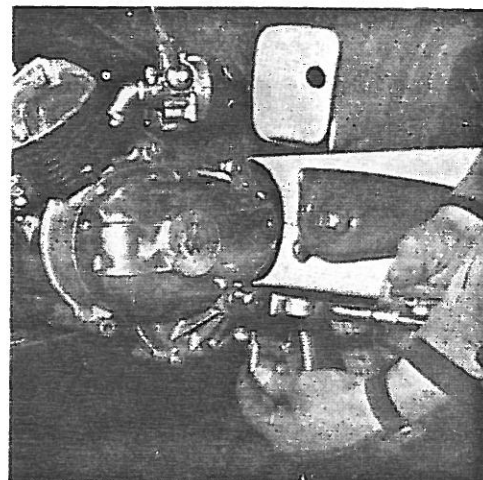

fig. 13
14. Remove pedal cranks and mount correctly as shown. (Fig. 13).